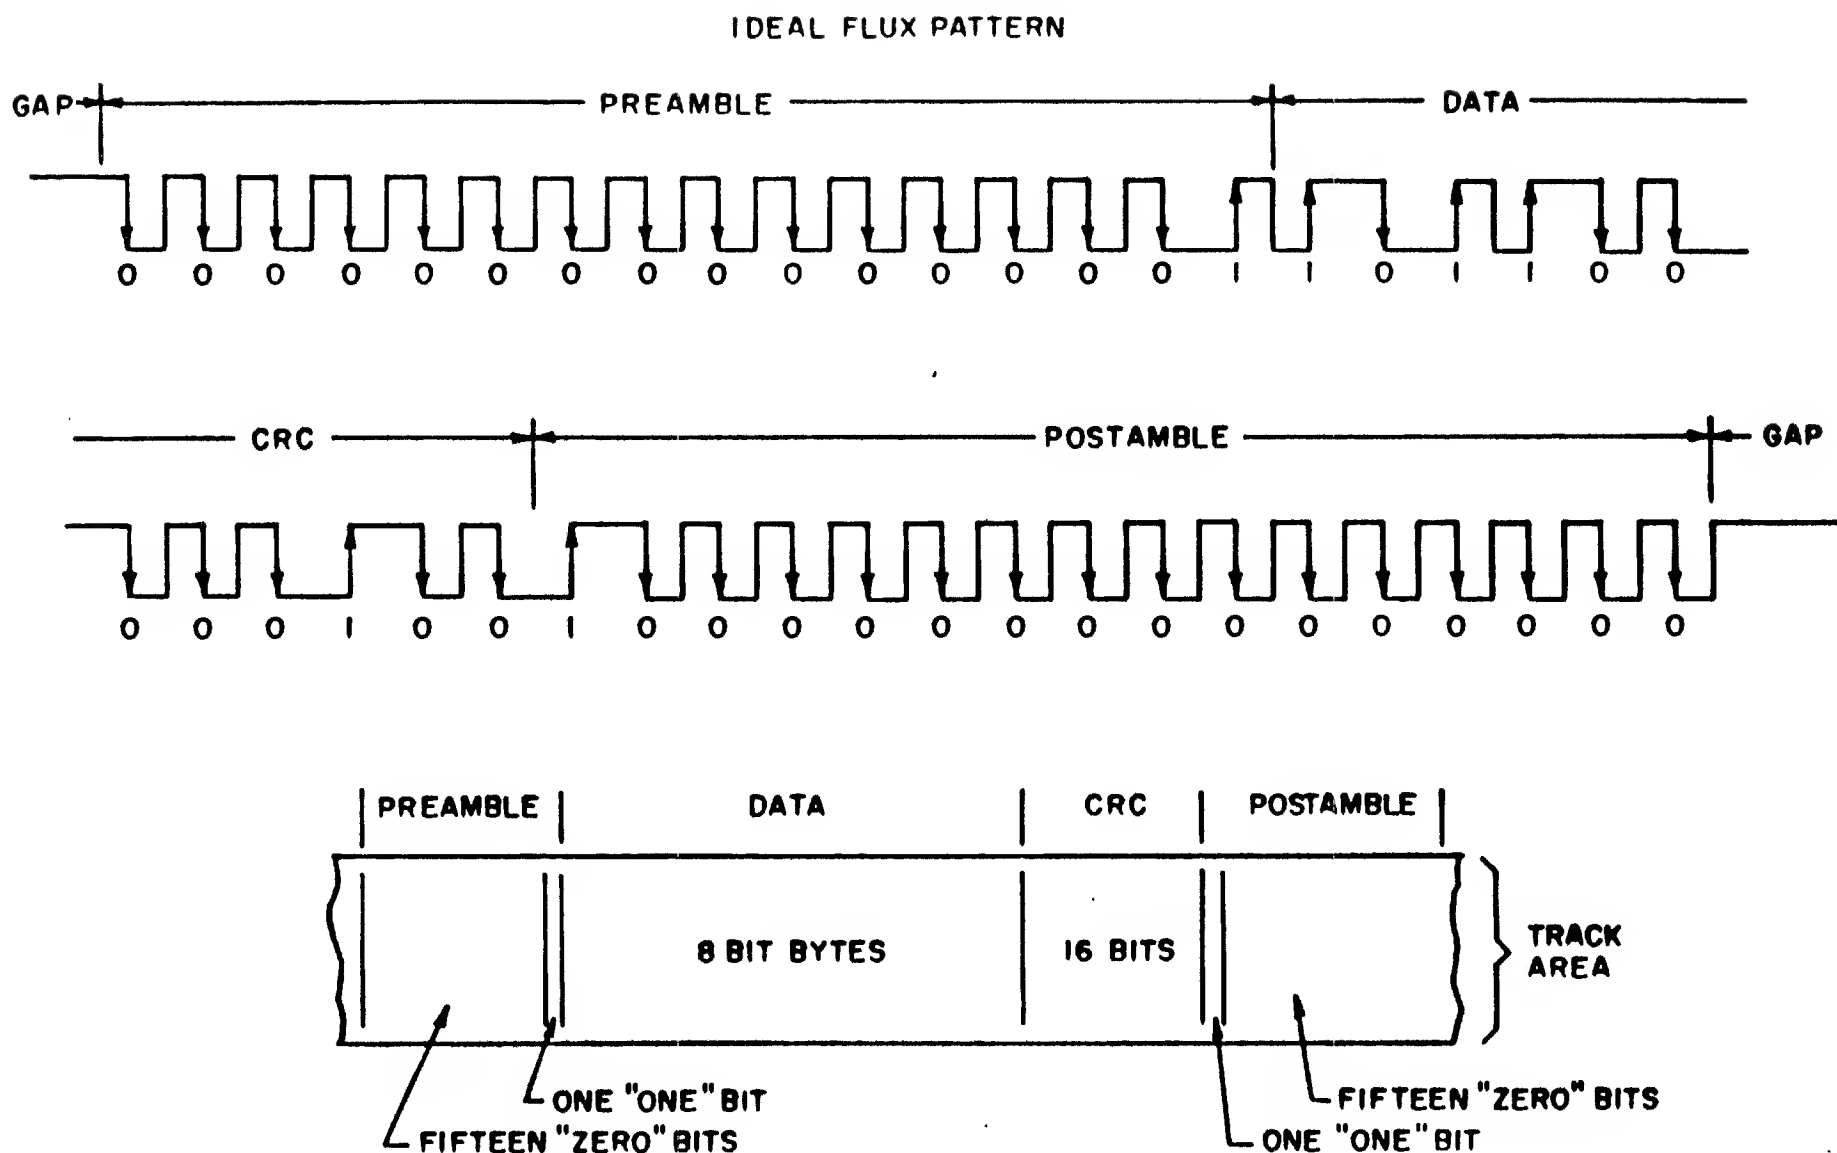

Fig. 2
2.4 Recorded Block. A recorded block is a group of contiguously recorded bits which extend from one interblock gap to the next interblock gap. This includes the data bits, CRC, and synchronizing bits, such as preamble and postamble (see Fig. 2).
4.5.3 Preamble. Preceding the data in each block a preamble shall be written consisting of 15 zero bits followed by a 1-bit (see Fig. 2). The preamble may be used to establish a timing sequence so that data can be read in the forward direction.
consisting of one 1-bit followed by 15 zero bits (see Fig. 2). The postamble may be used to establish a timing sequence so that data may be read in the reverse direction.